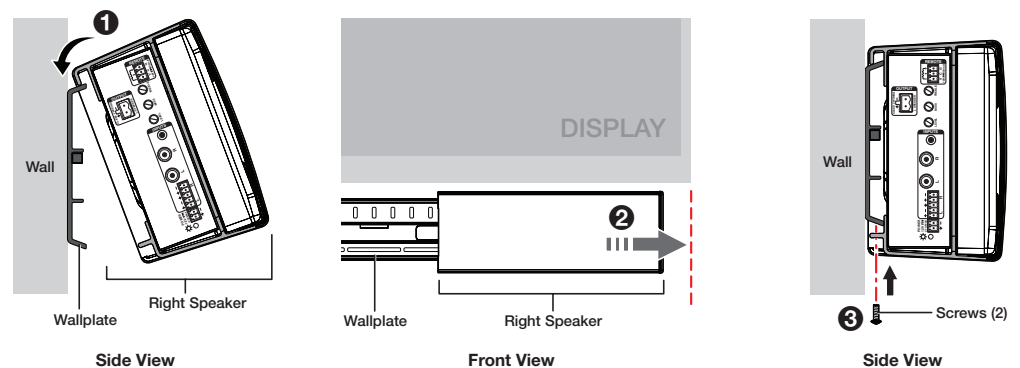

Figure 12. Attaching the Right Speaker to the Wallplate
2. Hook the top clasp edge of the right speaker assembly over the top rail ❶ in figure 12 of the wallplate and slide it to right end of the wallplate ❷ so that the right end of the speaker assembly is aligned with the right end of the display.